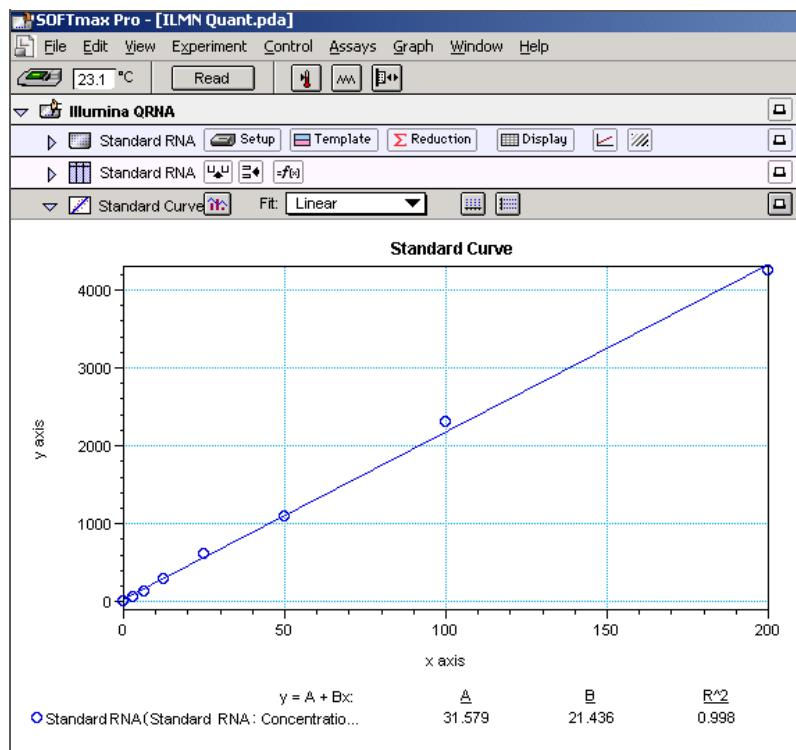

Figure 71 View Standard Curve
- Click the blue arrow next to **Standard Curve** to view the standard curve graph (Figure 71).